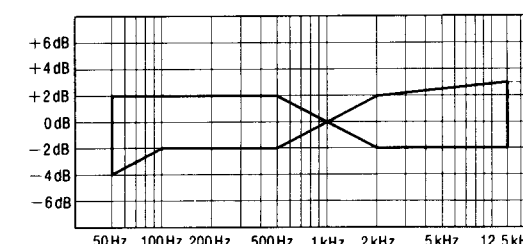

Fig. 9
3. Playback the signal recorded in step 2, and check that the level of each output frequency is within the range shown in Fig. 9 in comparison with the reference frequency (1 kHz).